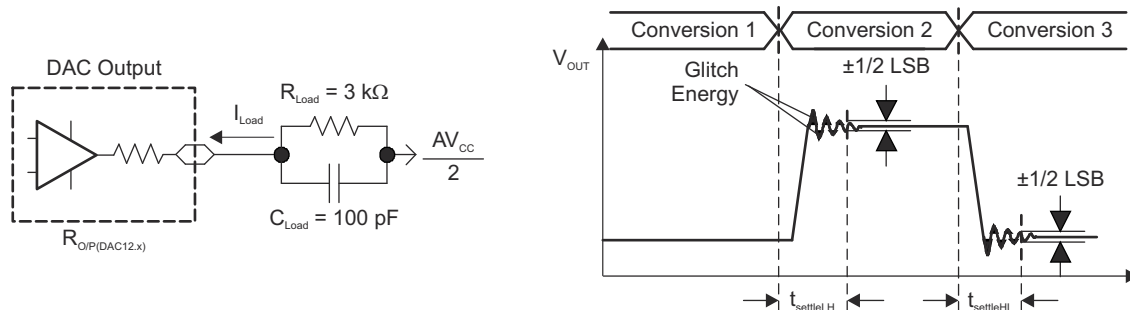
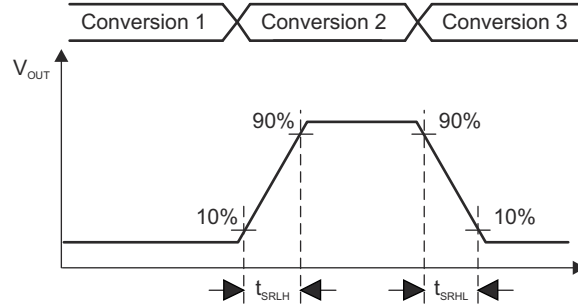

Figure 8-19. Settling Time and Glitch Energy Testing
Figure 8-20. Slew Rate Testing
V_{REF} = V_{CC}, DAC12IR = 1 (see Figure 8-19 and Figure 8-20), over recommended ranges of supply voltage and operating free-air temperature (unless otherwise noted)
| t _{ON} | DAC12 on time | DAC12_xDAT = 800h, Error _{V(O)} < ±0.5 LSB ⁽¹⁾ (see Figure 8-19) | 2.2 V, 3 V | | DAC12AMPx = 0 → {2, 3, 4} | 60 | 120 | μs |
- (1) R_{Load} and C_{Load} connected to AV_{SS} (not AV_{CC}/2) in Figure 8-19.
- (2) Slew rate applies to output voltage steps ≥ 200 mV.